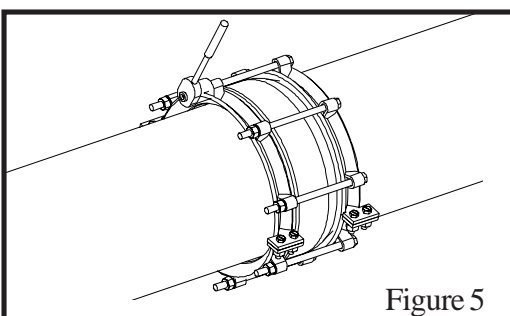

Figure 5
- Wrench tighten uniformly and progressively to approximately 60 - 70 foot lbs. torque. (See Figure 5)